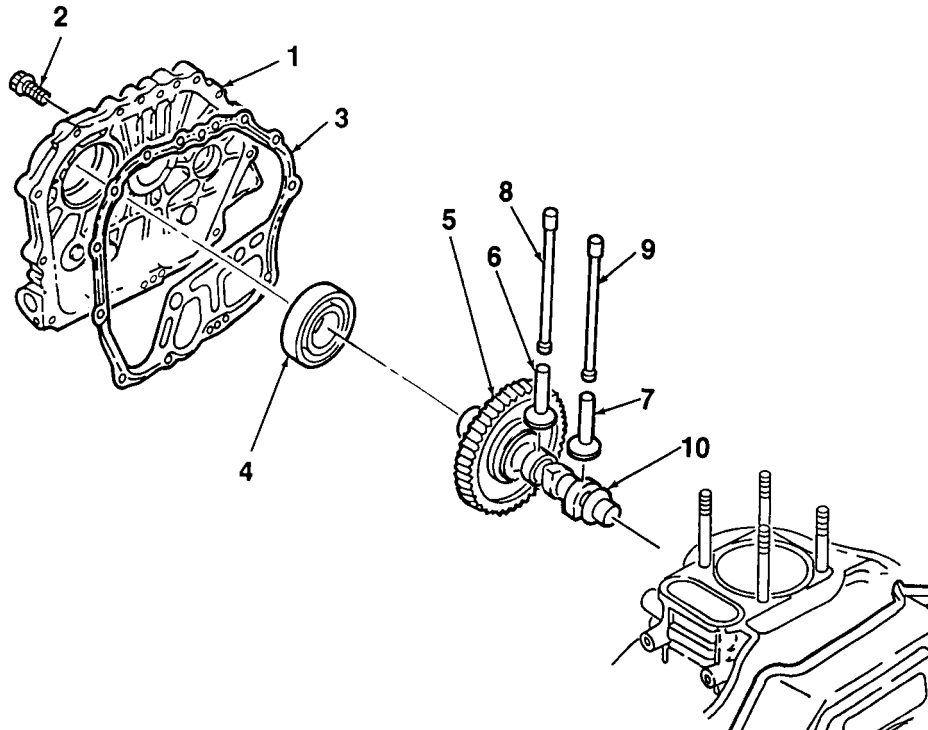

Figure 5-9. Camshaft Assembly Removal
1. Release crankcase cover (1, Figure 5-9) from cylinder block by removing fifteen screws (2). Carefully pry crankcase cover from engine crankcase.
2. Remove cover gasket (3). Discard if damaged or deformed.
1. Inspect crankcase cover (1, Figure 5-9) for cracks, deformation, or obvious damage. Inspect mating surfaces for scratches, burrs, or blemishes. Replace cover if damaged.
2. Inspect cover gasket (3) for damage or deformation. Replace if damaged in any way.